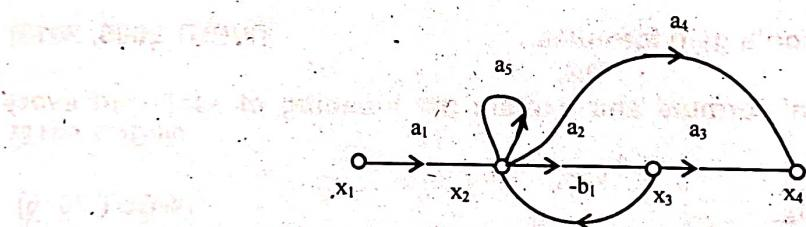

Fig: 1 Typical SFG
The following terminologies are used in SFG. Let us consider a typical signal flow graph as shown in figure 1.
- (1) **Input or Source Node:** It is a node that has only outgoing branches. For example,  $x_1$  is a source node in Fig (1).
- (2) **Output Node or Sink Node:** This is a node that has only incoming branches. For example in figure 1  $x_4$  is an output node, e.g.,  $x_4$  in Fig. (1).
- (3) **Chain Node / Mixed Node:** A node that has both incoming and outgoing branches is a chain node e.g., in figure 1,  $x_2$  and  $x_3$  are mixed nodes.
(4) **Forward path:** Any path from input node to output node is a forward path. In Fig: 1, there are two forward paths.
(5) **Path gain:** It is product of gains while going through a directed path. Path gain for forward path mentioned in the figure (1) are:
For instance, the loops in Fig. 1